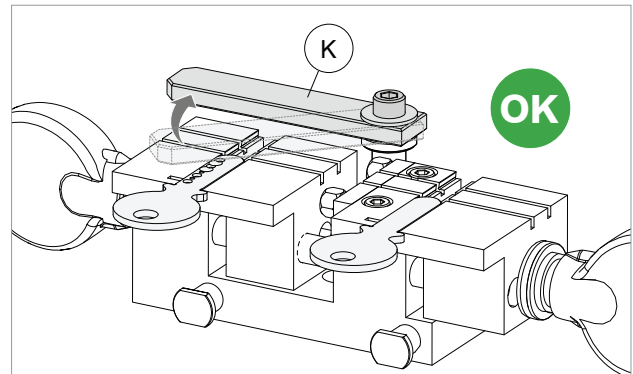
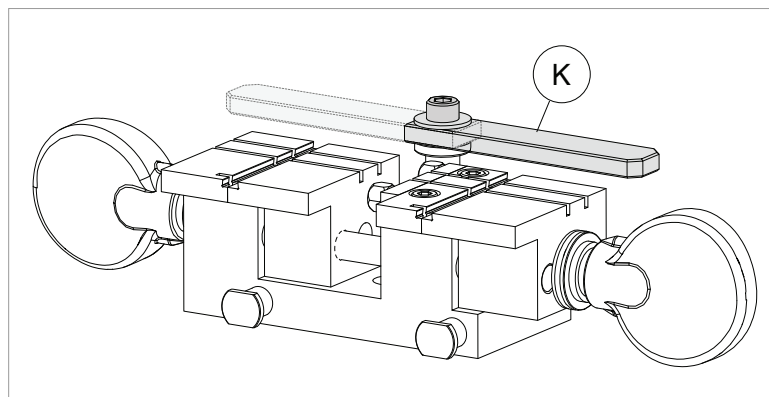

Fig. 21
Fig. 22 - idle positions
- d) check that the tubular key alignment bar (K) is in the idle position (Fig. 21 and Fig. 22).